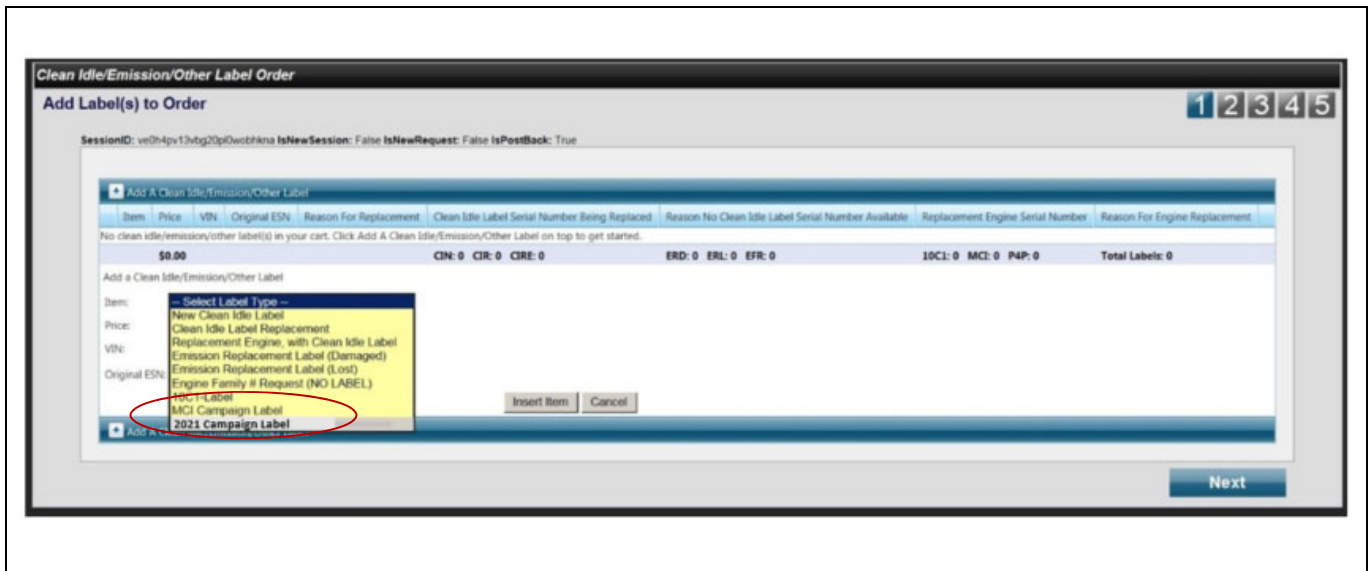

Fig. 11, Emission Label Ordering Process
2. Use the item drop-down menu and select “2021 Campaign Label.” See Figure 11.